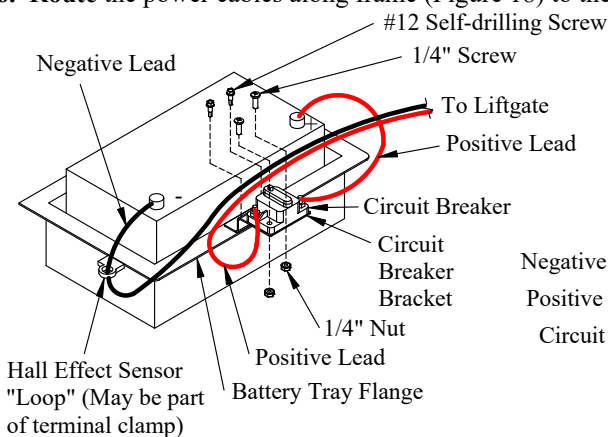

Figure 17: Circuit breaker bracket.
1. **Install** the circuit breaker on the circuit breaker bracket with 1/4" screws and nuts (Figure 17).
Note: The liftgate ground must pass through the "loop" of the hall effect sensor (Figures 17 & 19). The "loop" may be part of the terminal clamp. Not doing so will affect the charging system and shorten battery life (Ford Bulletin Q-231).